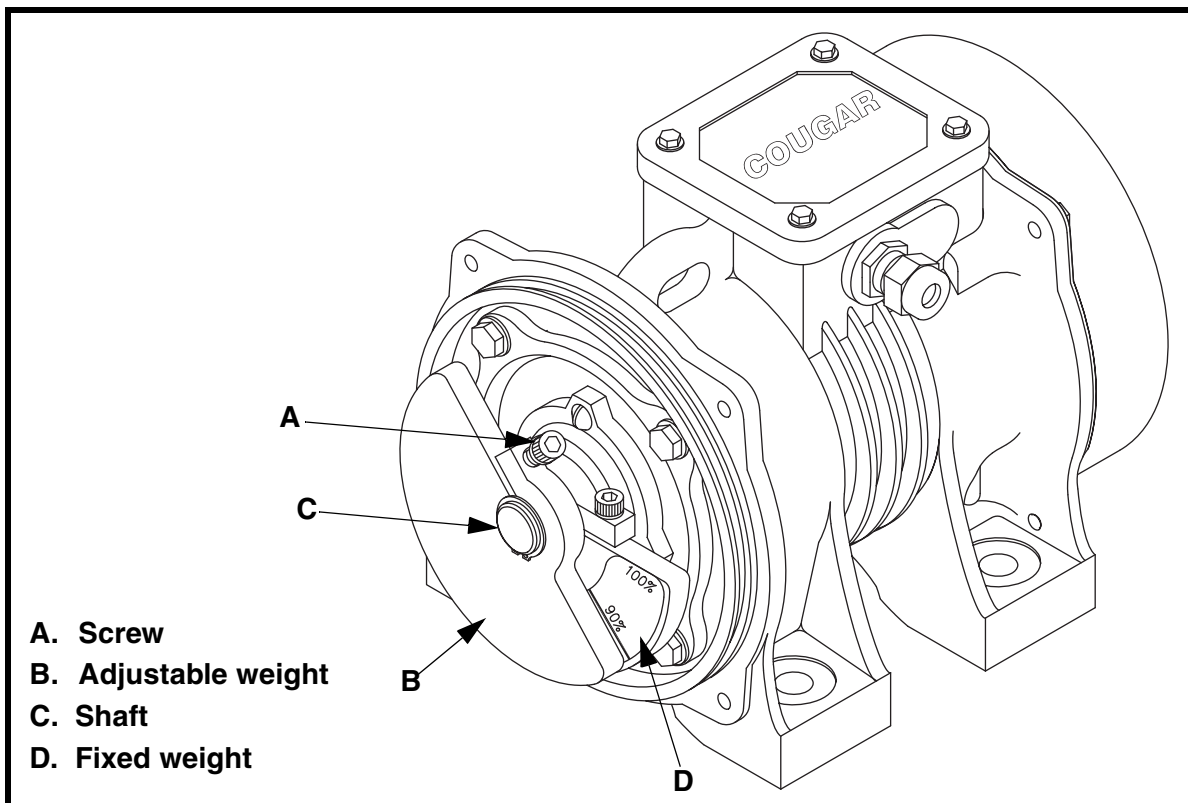

Figure 4. Adjusting Eccentric Weights
3. Loosen screw (A, Figure 4) so adjustable weight (B) will rotate around shaft (C).